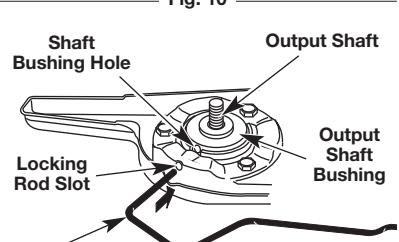

Fig. 11
- Align the shaft bushing hole with the locking rod slot and insert the locking rod into the bushing hole (Fig. 11).